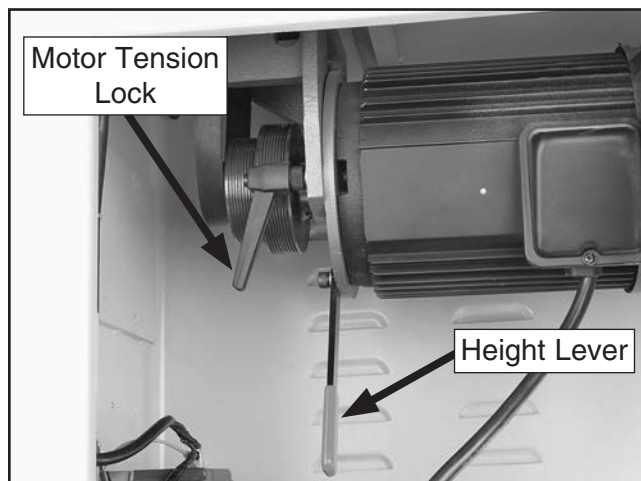

Figure 61. Motor tension controls.
8. Loosen the motor tension lock (see **Figure 61**), raise the motor up as far as possible using the height lever, tighten the tension lock, then remove the belt from the motor pulley.